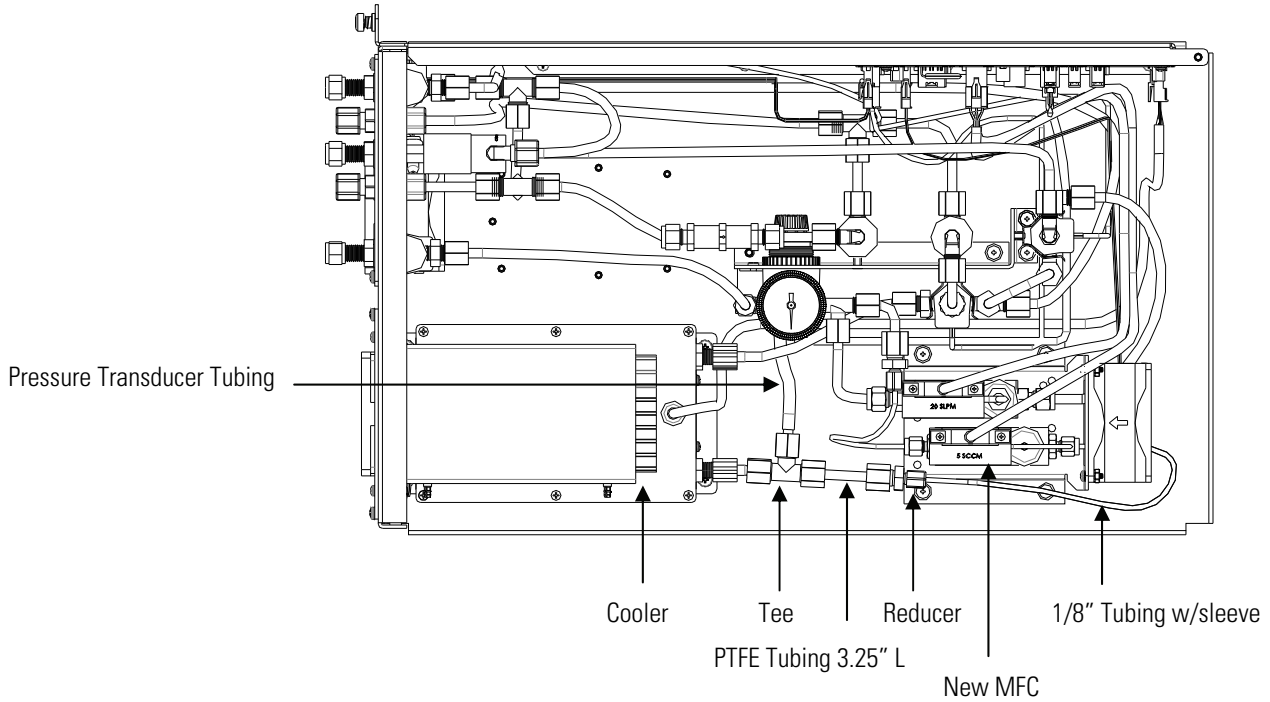

Figure 1. Installed Components
- a. Install the new 100 sccm MFC for high level and the new 5 sccm MFC for low level by following the previous steps in reverse. Refer to “Removing the Mass Flow Controller” in this document, and Figure 1.